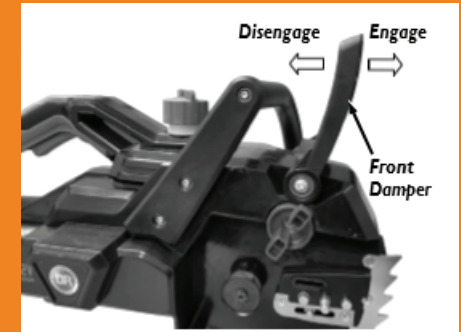

Figure 2
3. Check to make sure that the Chain Brake is disengaged by pulling back on the Front Damper (**Figure 2**).
1. Check to make sure that the Chain Brake is not engaged, by pulling back on the Front Damper (**Figure 2**).